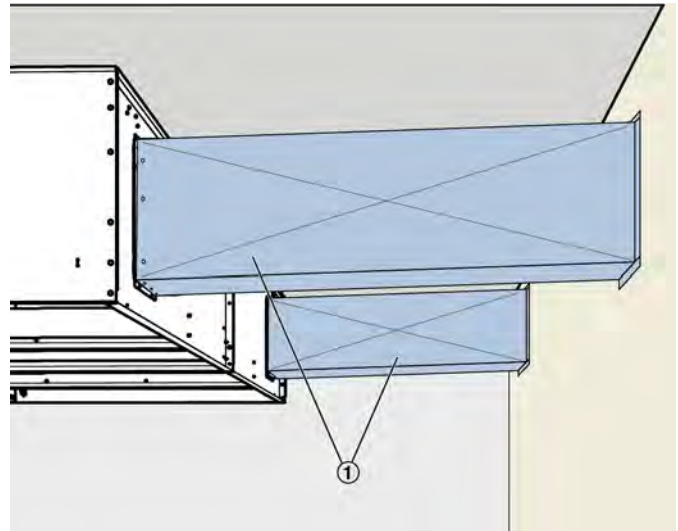

Fig. 34: Connecting the ductwork to the door frame
8. ▶ Make a duct (Fig. 34 /1) between the frame and the wall opening. In the process, make sure that the connections are tight. Condensation must be prevented by suitable measures, e.g. insulation of the pipes.